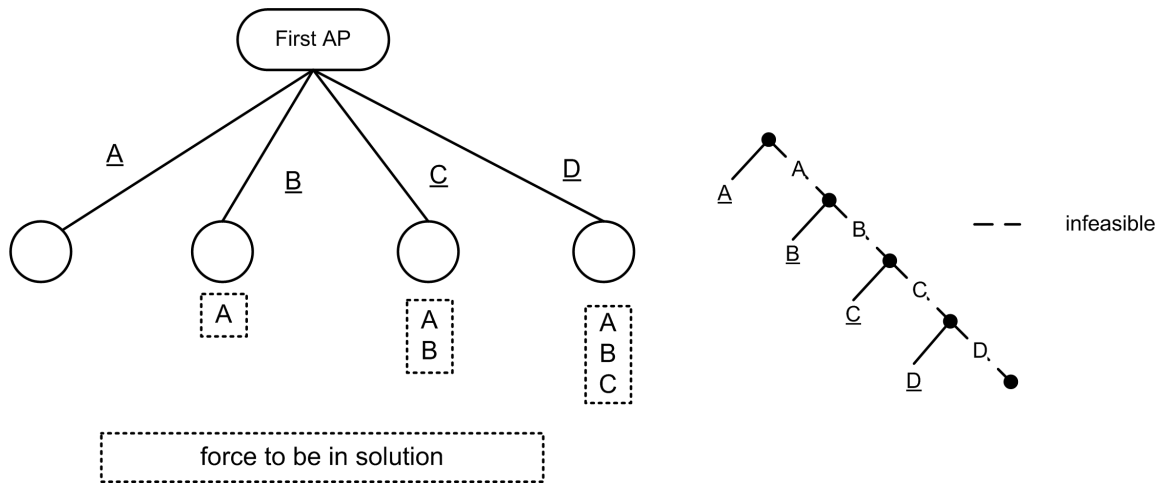

Figure 1.5: Branching I
5. Take one subtour and eliminate it by branching see figure 1.5 (for example number I) In subproblem A set  $c_{34} = \infty$  (and implicitly exclude A)